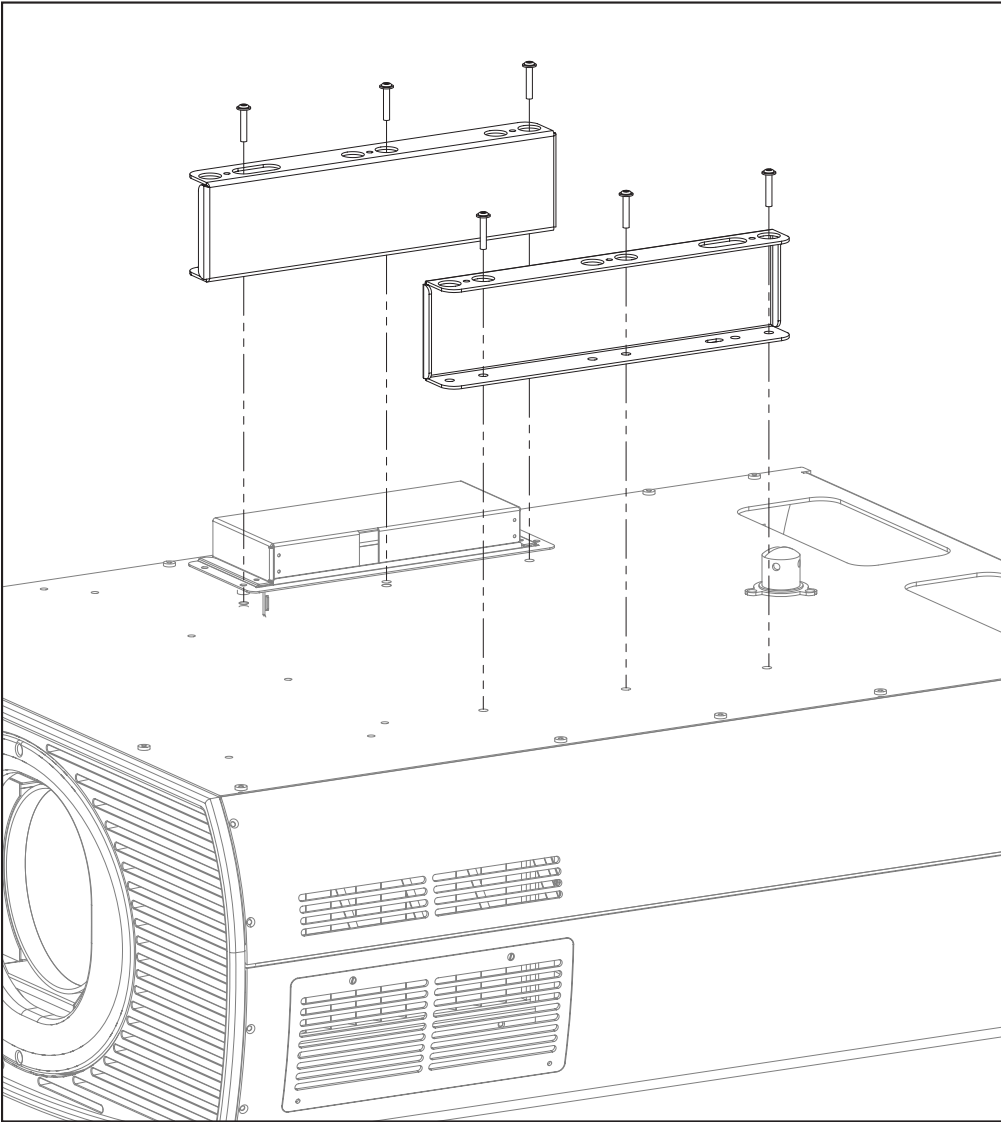

Figure 3-7. Vision 120 with Ceiling Mount Adapters/Projector Stands
Using six (6) each of the supplied, M6 x 12mm Pan-Head Phillips screws (item #2), attach the AutoScope Ceiling Mount Adapters/Projector Stands (items #3 and #4) to the projector as shown in Figure 3-7.
Use a Vidikron DVI Dual-Link (DVI-DL) cable to connect the output of the VHD Controller to the input of the Vision 120; see Figure 3-7.